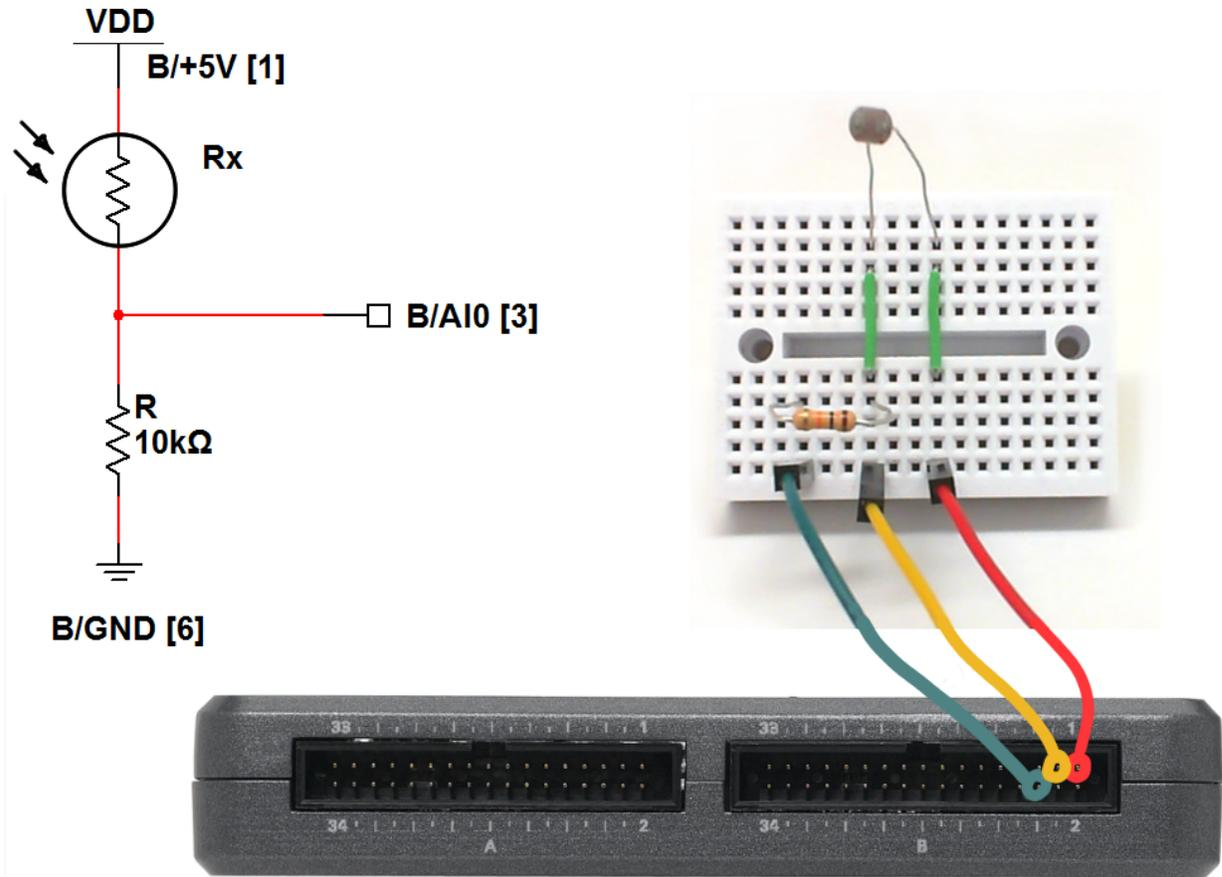

Figure 9.2: Demonstration circuit for photocell: schematic diagram, recommended breadboard layout, and connection to NI myRIO MXP Connector B.
**Build the interface circuit:** Refer to the schematic diagram and recommended breadboard layout shown in Figure 9.2 on the next page. The interface circuit requires three connections to NI myRIO MXP Connector B: